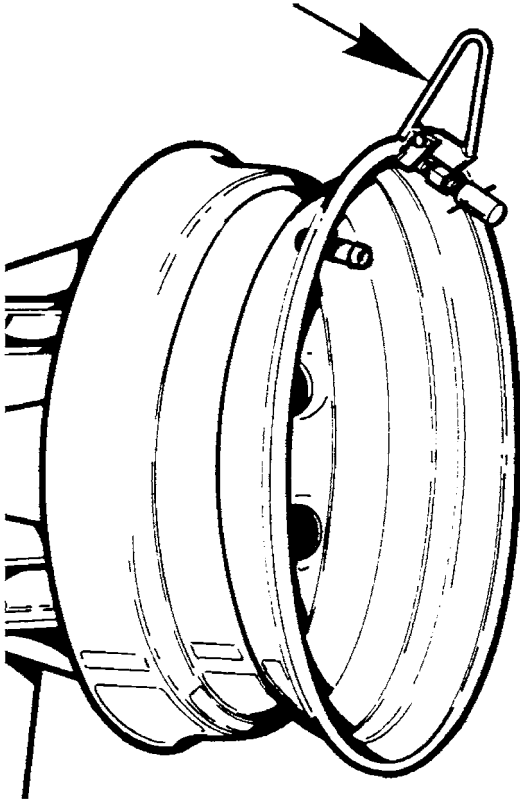

Fig.24
1. Liberally lubricate the entire inner surface of the rim and the tire beads. Attach the mounting clamp (fig.24) to the outer rim flange with the valve at 11 o'clock and the clamp at 12 o'clock.